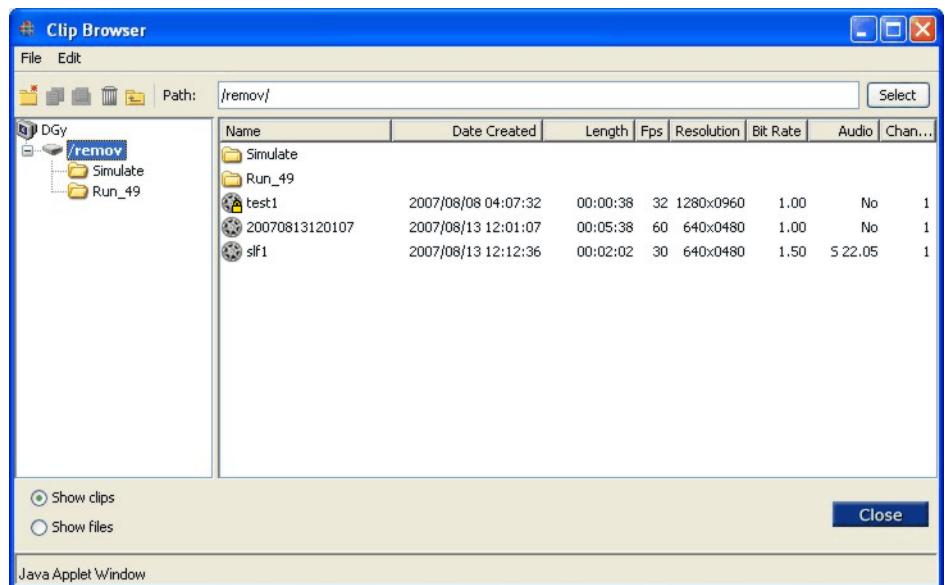

Figure 4-6 FTP Select Files to Download
5. Click on the **Browse** button by the **Source** window to open the **Clip Browser** window shown in Figure 4-6.
5. Click on the **Browse** button next to the **Source Transfer List** to open the **Select files to upload to DGy** window shown in Figure 4-6.